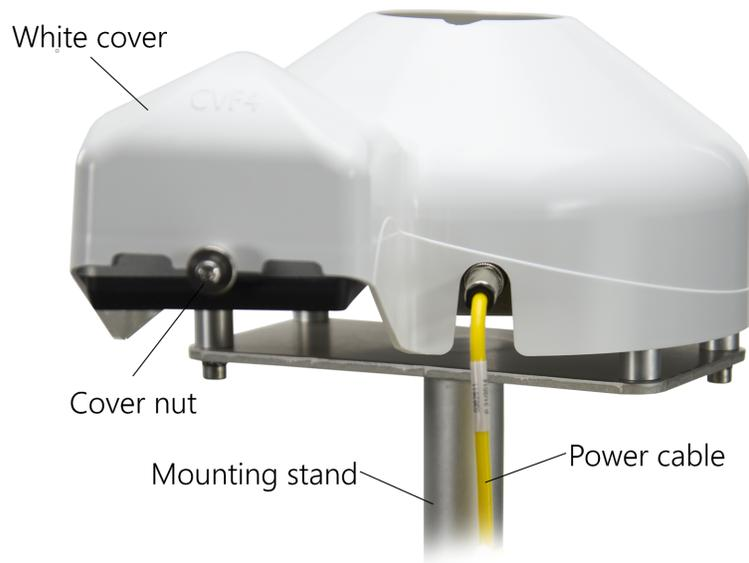

Figure C-8. CVF4 mounted to CVF4 mounting stand (pyranometer not shown)
9. Fit the white cover onto the CVF4 and secure it with the cover nuts (see Figure C-8 [p. 27]).